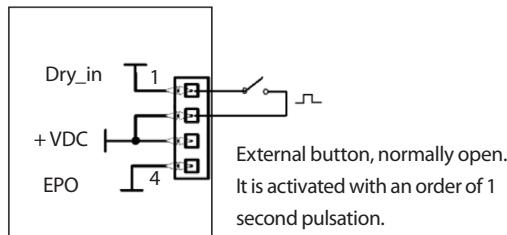

Fig. 14. Button installation in the "Dry_in" terminals.
- When pressing, over it for 1 second, the circuit will activate the opposite order of the current status of the inverter, so, if it is shutdown then it will be started up and vice versa, if the inverter is started up then it will be shutdown (see figure 14).